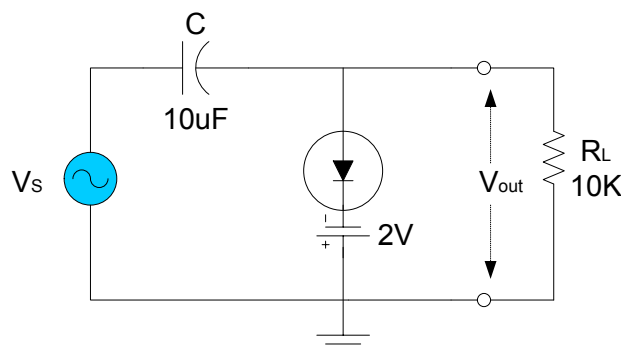

Figure 3
4. Lastly add a dc supply of 2 volt to the diode as shown in Figure 3. Sketch the output waveform. Show the dc level on your sketch. Also check output for square wave input.
1. For the clamped circuit of Figure 3, Apply square wave input of 5 KHz with amplitude of approximately 10V peak. Show a Probe plot of V_s and V_{out} . Simulate for a total of 2ms. Comment on the observed circuit behavior. Observe output for $R_L = 0.1K\Omega$ & $100K\Omega$. Comment on the observed circuit behavior, and discuss why the output trace looks different from the case when R_L was $10K\Omega$.